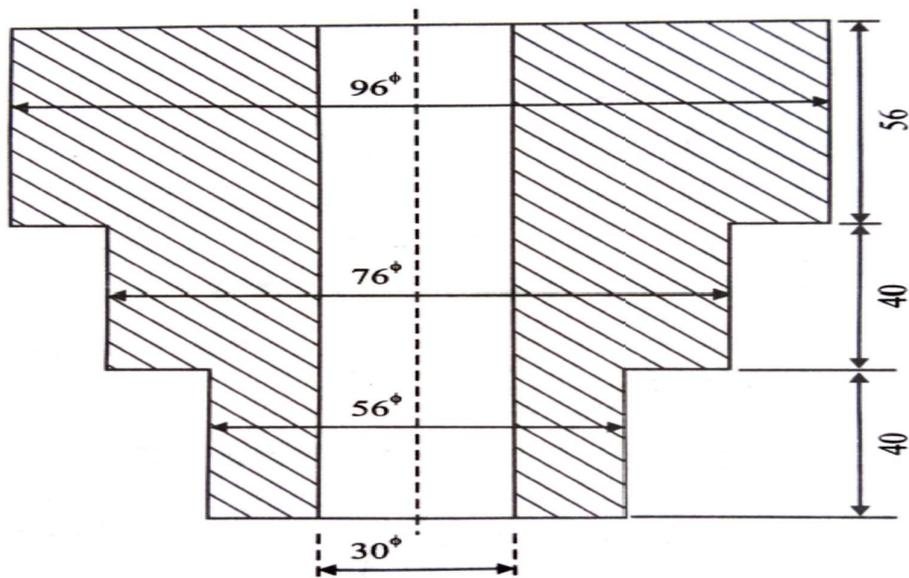

Fig 5.2
- 12 (b) (i) A cast iron component is to be manufactured as per Fig. 5.2. Estimate the selling price per piece from the following data: **(8)**